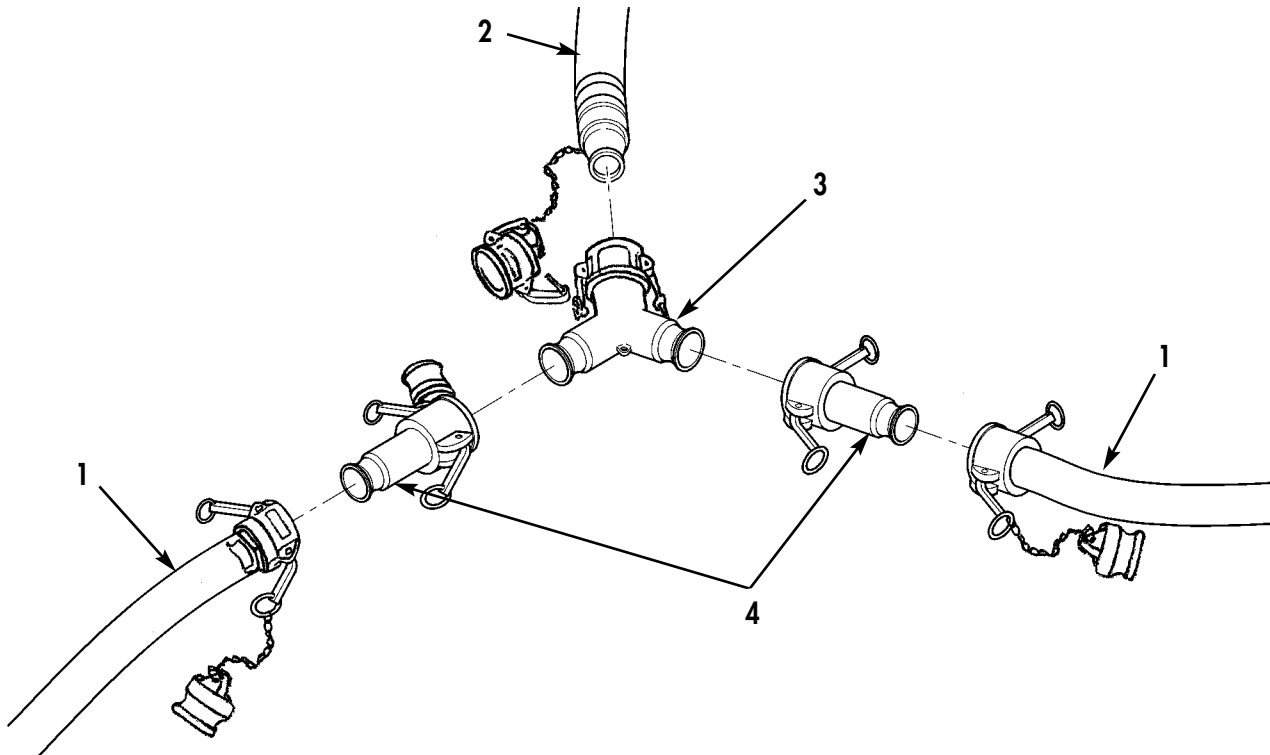

Figure 7. Hose Connections to Y-Fitting and Reducers.
13. Remove two plugs and caps, and connect two Y-fittings (Figure 7, Item 3) to two 2 in. (51 mm) DIA x 25 ft (7.6 m) long discharge hose assemblies (Figure 7, Item 2).
14. Remove four plugs and caps, and connect four 2 in. to 1.5 in. DIA (51 mm to 38 mm DIA) reducers (Figure 7, Item 4) to two Y-fittings (Figure 7, Item 3).
15. Remove four plugs and caps, and connect four 1.5 in. (38 mm) DIA x 25 ft (7.6 m) long hoses (Figure 7, Item 1) to four reducers (Figure 7, Item 4).